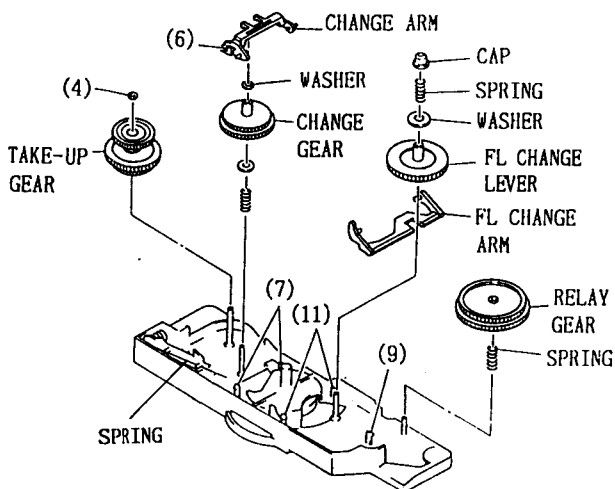

Fig. 7-14 Take-up Gear, Change Arm, Change Gear, Relay Gear, FL Change Gear and FL Change Lever
14. Take-up Gear, Change Arm, Change Gear, Relay Gear, FL Change Gear and FL Change Lever (Fig. 7-14)